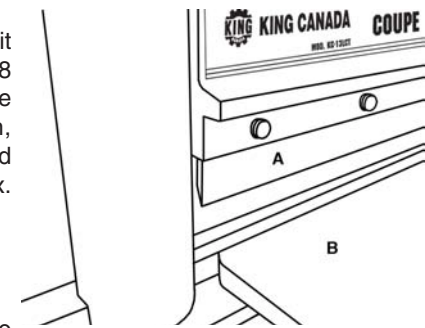

Figure 8
3. Once knife has been sharpened or replaced, it can be re-installed. Position the knife (A) Fig.8 with its flat edge facing the table (B). Make sure the mounting surface and knife are clean, re-install the knife with the seven allen head screws removed earlier using the supplied hex. key.